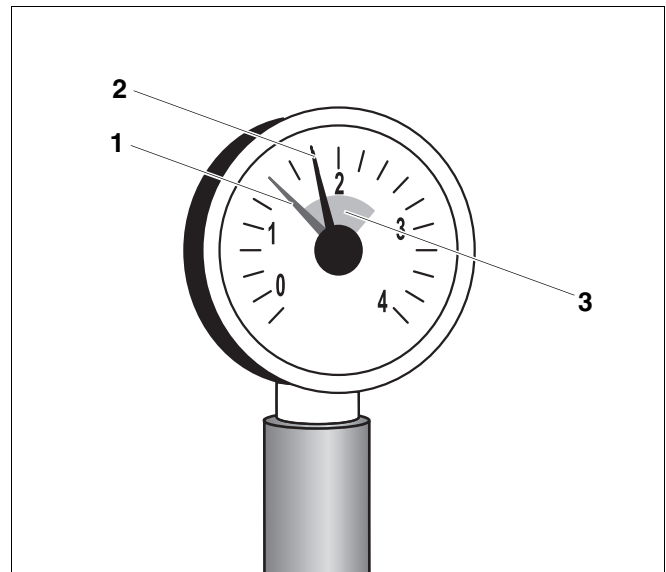

Fig. 6 Pressure gauge for sealed systems
On sealed systems the pressure gauge needle (Fig. 6, **item 2**) must be within the green range (Fig. 6, **item 3**). Set the red needle (Fig. 6, **item 1**) on the pressure gauge to the required system pressure.